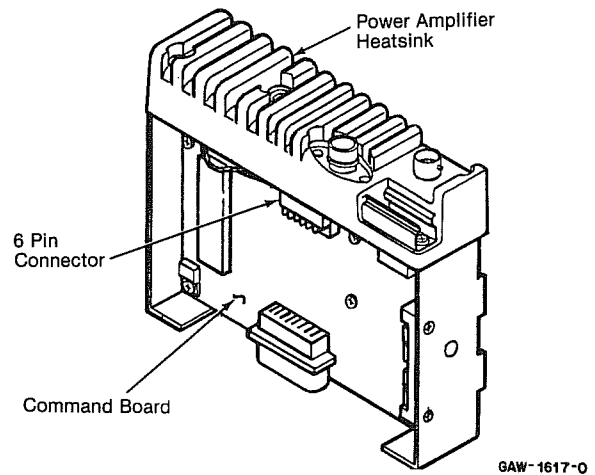

Figure 11
(1) Disconnect the right-angle six-pin connector from the command board (Figure 11).